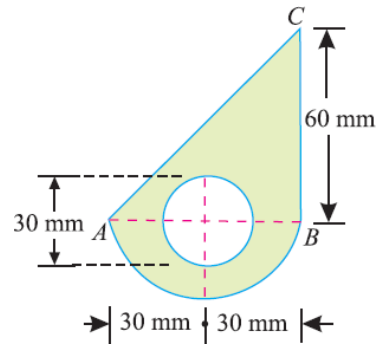

Fig.21
1. Find the moment of inertia of the lamina with a circular hole of 30 mm diameter about the axis *AB* as shown in Fig.21